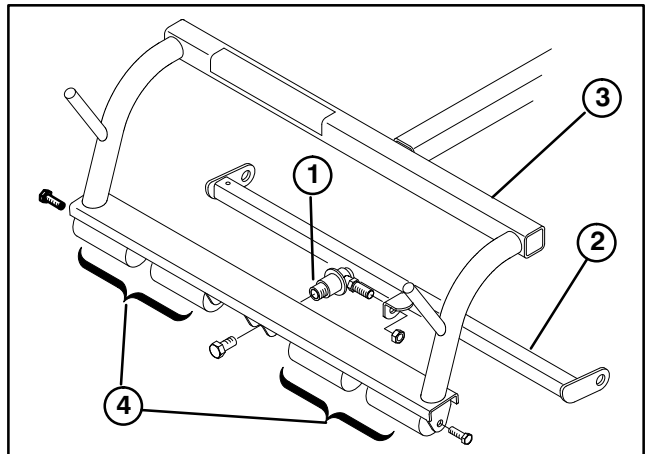

Figure 3
MOUNT SPIKERS (Fig. 3–9)
Note: If carrier frames are equipped with single point pull frames, pull frame and attaching ball joint must be removed (Fig. 3).
- A. Remove capscrews securing outside ends of each anti-scalp roller shaft to each end of carrier frame (outside end of shafts only) (Fig. 3).